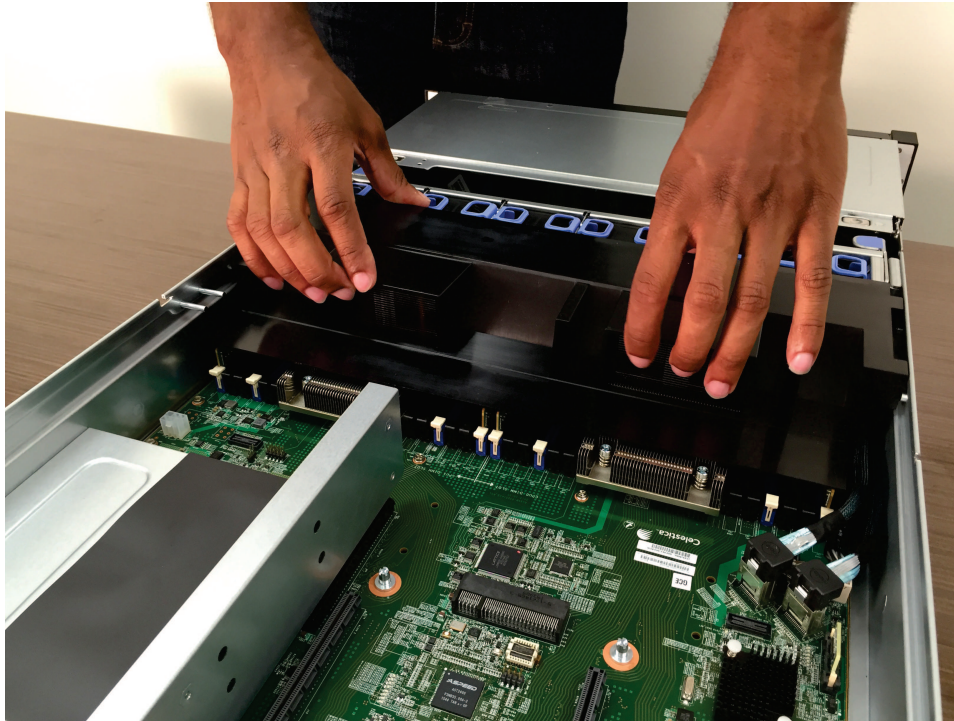

Figure 61. Replacing the air baffle
4. Press the air baffle down until it is securely seated, as shown in Figure 61 on page 78.